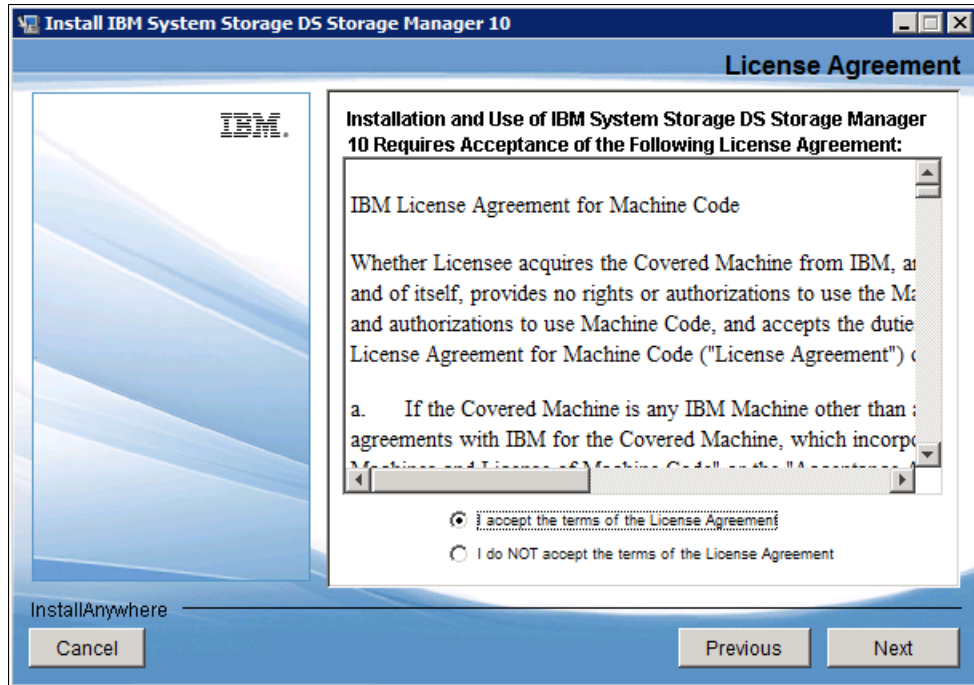

Figure 4-5 IBM DS Storage Manager License Agreement
5. Read the license agreement and click **Next**, as shown in Figure 4-5.